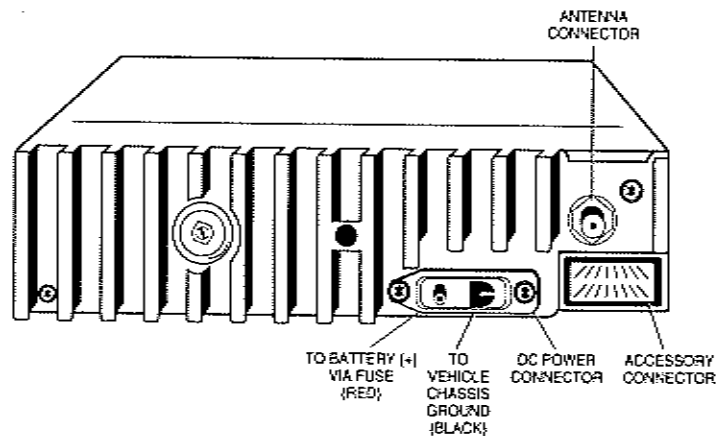
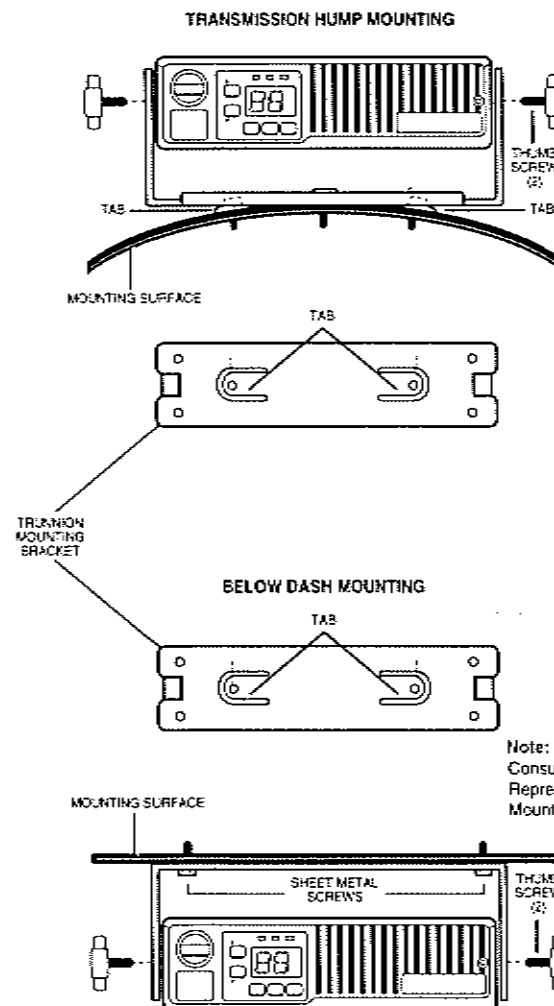

Figure 3. Connections to Rear Radio Panel
Figure 4. Trunnion Mount for Radio
- (1) Select the location to mount your radio either on the TRANSMISSION HUMP OR BELOW THE DASH (see Figure 4).
- (2) Using the trunnion-mounting bracket as a template, mark the positions of the holes on the mounting surface. Use the innermost four holes for a curved mounting surface such as the transmission hump, and the four outermost holes for a flat surface such as under the dash.
- (3) Centerpunch the spots you have marked and drill a 5/32" hole at each.
- (4) Secure the trunnion-mounting bracket to the surface with the four (10-16x3/4") screws provided.
- (5) Place the radio in the trunnion-mounting bracket and secure it with the two thumb screws provided.
- (6) To complete your radio installation, plug the power cable into the radio power connector [see Figure 3].
- (7) Mount the antenna using the instructions provided with the antenna kit. Run the coaxial cable to the radio mounting location. If necessary, cut off the excess cable and install the cable connector.
- (8) Connect the antenna cable connector to the radio antenna connector on the rear of the radio (see Figure 3).
- (9) Mount the microphone clip. Follow instructions provided with the microphone clip.
- (10) Plug the microphone into the front panel connector. Your microphone has a telephone-type connector at the end of its cord. Connect and disconnect your radio microphone in the same manner you connect and disconnect your telephone handset.